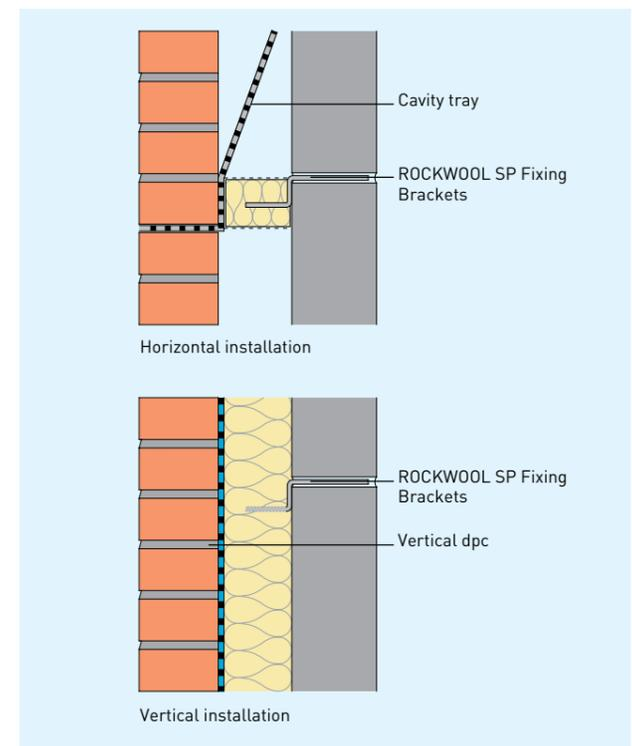

Figure 5 ROCKWOOL SP Firestop Slab between masonry leaves
Figure 5 illustrates typical applications, with the product fitted tightly between masonry leaves. When it is not possible to build the brackets into a leaf, the fixings can be re-profiled as necessary and mechanically fixed to the face of the masonry.
- Work on both leaves can then be continued and must include either a vertical damp proof course or a cavity tray, installed over the ROCKWOOL SP Firestop Slab as shown in Figure 5.